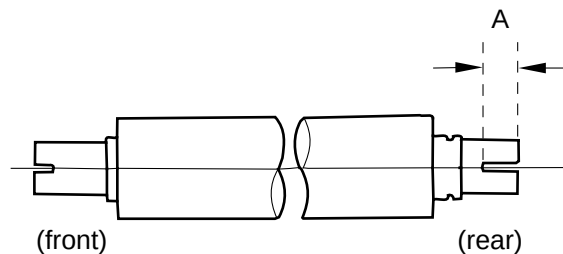

Figure 6-221
- a. Orient it so that the side with a longer cut-off (section A in Figure 6-221) is toward the rear.